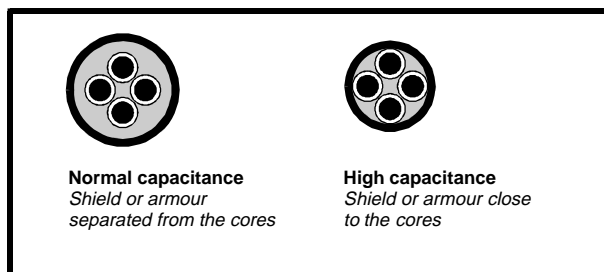

Figure 2-1 Cable construction influencing the capacitance
- **High-capacitance cables** Most cables have an insulating jacket between the cores and the armour or shield; these cables have a low capacitance and are recommended. Cables that do not have an insulating jacket tend to have high capacitance; if a cable of this type is used, the maximum cable length is half that quoted in the table. (Figure 2-1 shows how to identify the two types.)